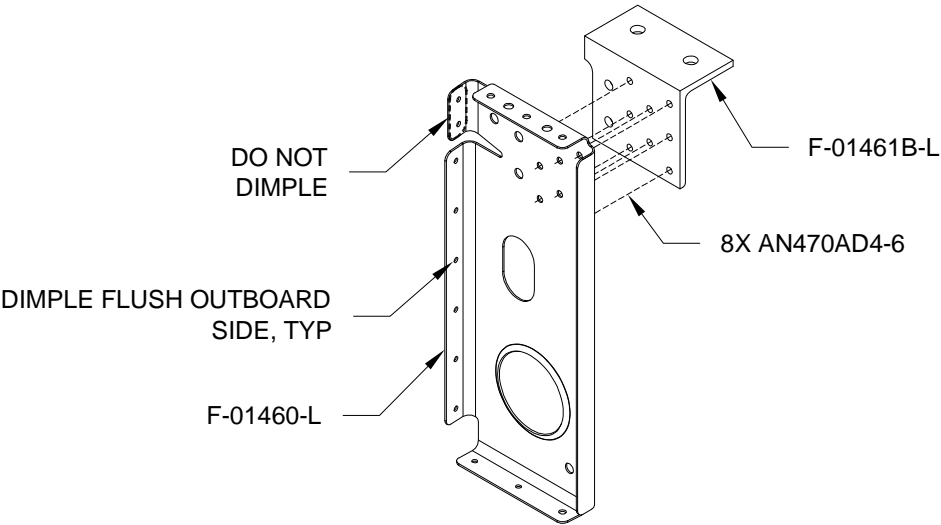

FIGURE 3: INTERCOSTAL
Step 4: Dimple the holes in the outboard flanges of the F-01460-L Intercostal. See Figure 3 for exceptions.
Step 5: Rivet the F-01461B-L Roll Bar Angle to the intercostal as shown in Figure 3.